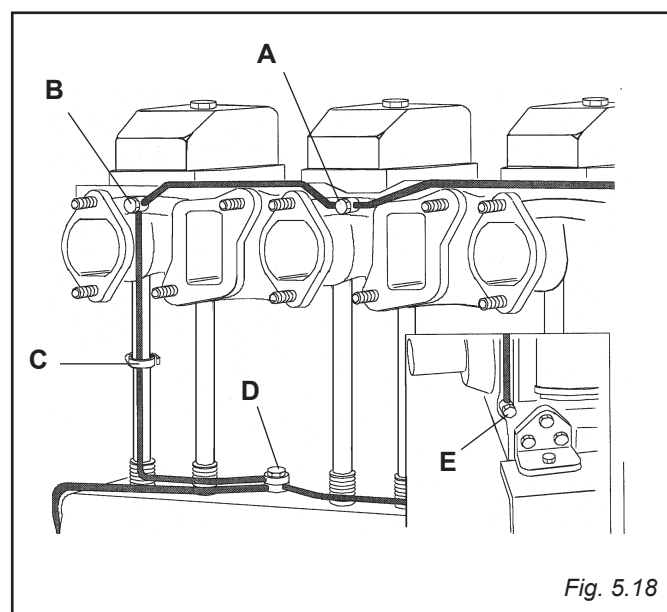

Fig. 5.18
5.22 ROCKER ARM / CAMSHAFT LUBRICATION PIPES (FIG. 5.18)